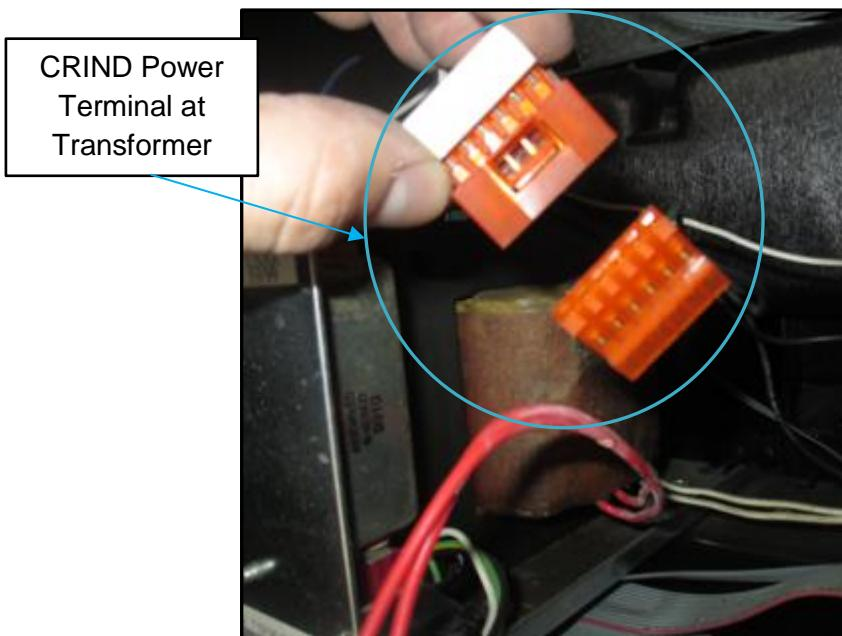

Fig. 1.13b – Unplug the CRIND power cable
- 2) Unplug the 6-pin CRIND power terminal wire harness. (Fig 1.13b)